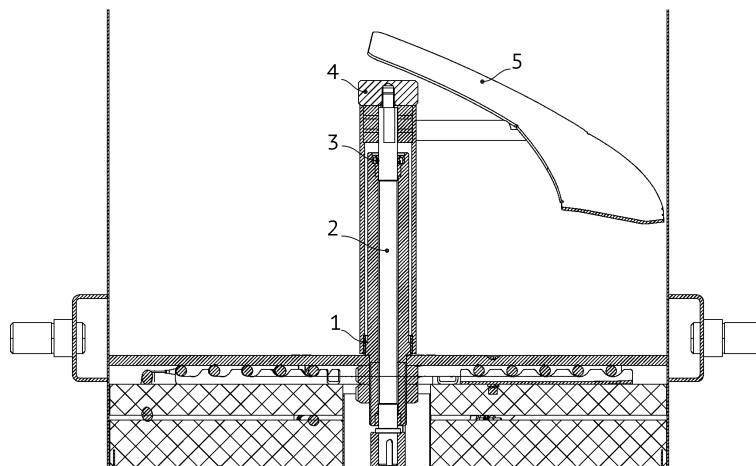

Figure 5
6. Release Fixing Nut (4), see Fig. 5. ATTENTION! Fixing nut has left-thread. Remove Mixer (5) from the Shaft (2). Inspect Sealing Collar (3) and PTFE Collar (1). Replace worn-out components. Put the mixer back on the shaft and fix with the nut.
1. Release Fixing Nut (4), see Fig. 5. ATTENTION! Fixing nut has left-thread. Take off the Mixer (5) from Shaft (2).
2. Remove Sealing Collar (3) and PTFE Collar (1).